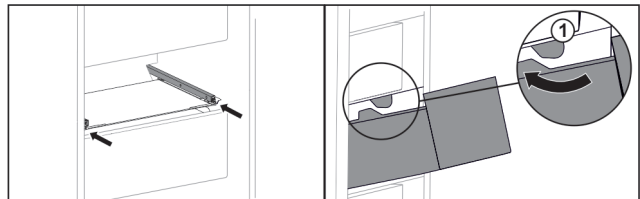

Fig. 149
- ▶ Guide drawer around the stoppers Fig. 149 (1).